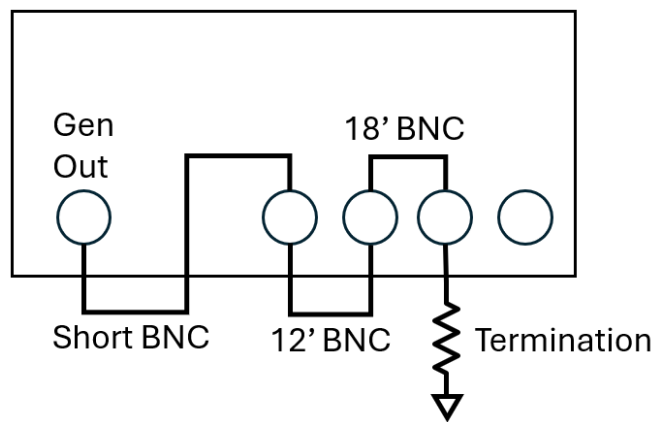

Figure 1
1. Consider an oscilloscope and function generator connected as shown in Figure 1. Calculate the voltage waveforms you expect to see at channels 1, 2 and 3 after Gen Out drives a 1V step onto the transmission line for the terminations listed below.
3. Optional extra credit: Repeat your simulations of Figure 1 using a lossy transmission line element and an appropriate model to set your series resistance to 30milliOhm/m and then 10Ohm/m. How does this series resistance affect your measured waveforms?
Required data in lab notebook: Schematics of simulations for figures 1, 2 and 3. Simulated time domain traces for each channel on figures 1, 2 and 3, and comparisons to calculated traces from theory section. Documentation on how you built your lab setup, including pictures. Time domain traces from the oscilloscope (NOT CELL PHONE PICS, EXPORT YOUR DATA) and comparison to simulated traces and theoretical calculations.